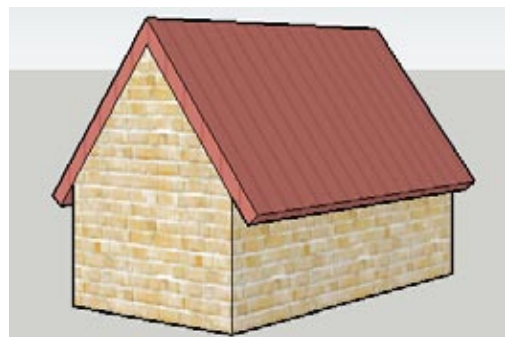

Figure 5-23
1. Start with a model like the one shown in Figure 5-23. You can reuse your model from Recipe 5.1, or you can download my Coplanar Dormer model from the 3D Warehouse.